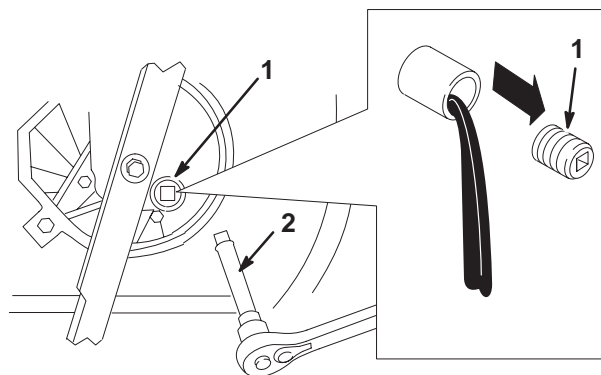

Figure 17
5. Remove the oil drain plug, return the lawn mower to its operating position, and allow the oil to drain into the drain pan (Fig. 17).